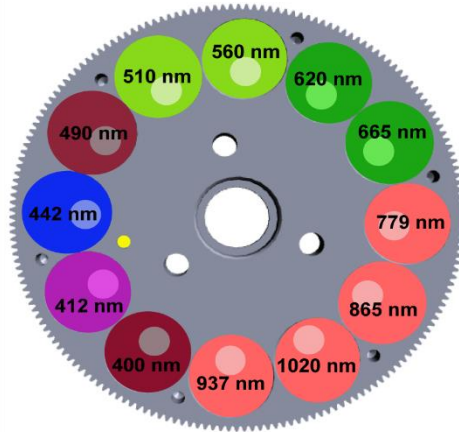

Figure 5 : Ocean Color 12 filters
- **Ocean Color 12 filters :** It uses 400, 412.5, 442.5, 490, 510, 560, 620, 665, 779, 865, 937, 1020 nm filters (Fig.5)